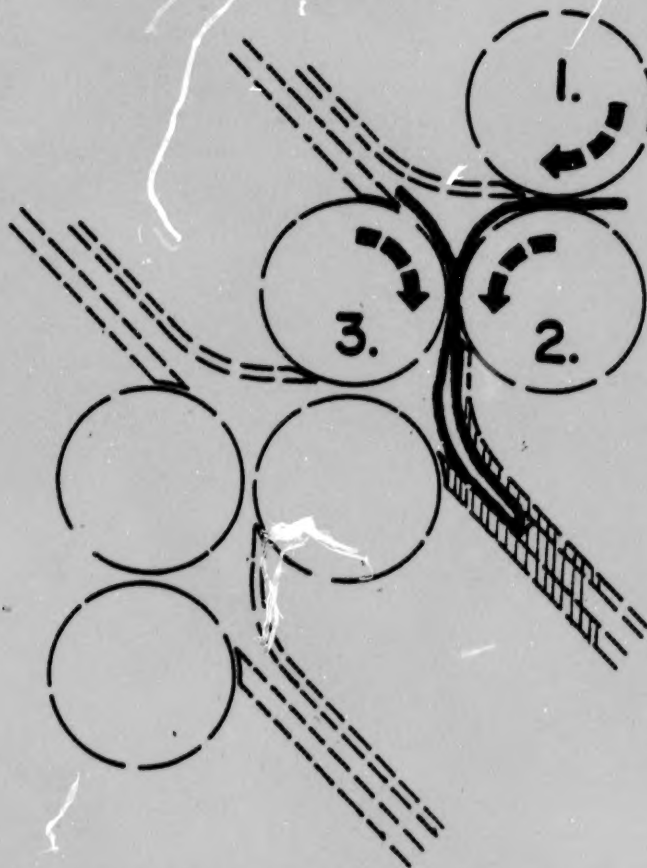

FIGURE 3. FOLDING PROCEDURE STEP 3.
c. Step 3. If according to composition requirements a second fold is to be made using fold plate Number 2, the once folded sheet is driven by the Number 2 and 3 rollers into the Number 2 fold plate, the deflector having been raised until.... (See Figure 3)